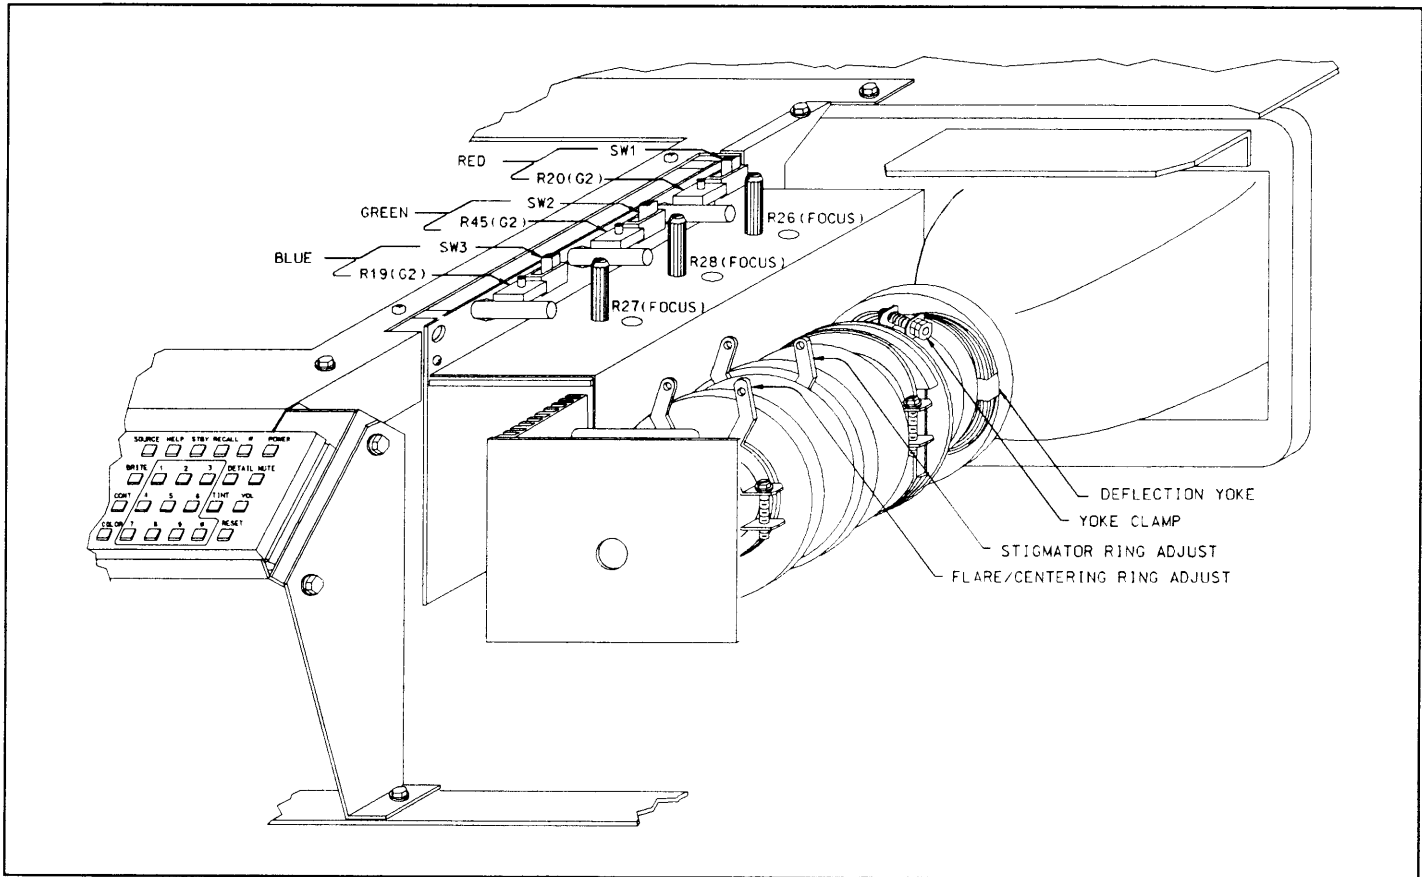

FIGURE 7-5. Bias Module and CRT Controls
- Adjust the three G2 trim potentiometers (R20, R45, R19) on the Bias module until the raster of each color is visible (see Figure 7-5).
**b)** For the newly installed or reassembled CRT, turn on the corresponding CRT switch on the Bias module. Refer to Figure 7-5. With the internal cross hatch selected from the keypad, look into the CRT lens and adjust the G2 and focus controls on the Bias module. Set the controls to
**c)** Turn OFF the newly installed CRT and turn ON one of the original CRTs, preferably the green or red. Use the appropriate switch on the Bias module. See Figure 7-5.
- View the screen center. Rotate the stigmator rings until the spot becomes round. Refer to Figure 7-5.
- Rotate the flare rings until the bright spot is in the center of the halo. Refer to Figure 7-5.